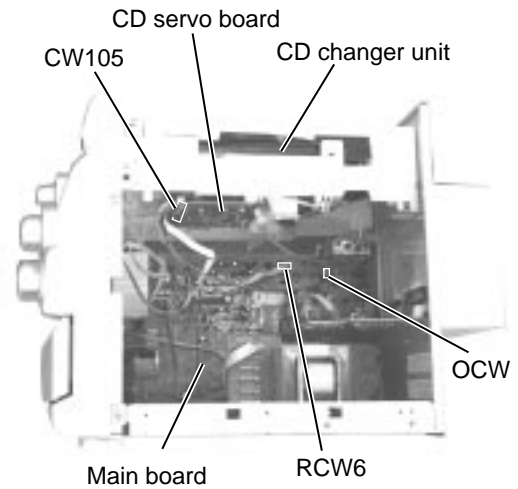

Fig.8
■ Removing the CD changer unit (See Fig.8 to 10)